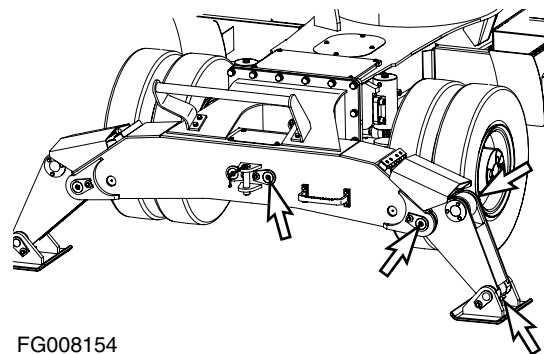

Figure 40
- Position machine as shown Figure 40 and lower the outrigger leg to the ground and shut down engine.